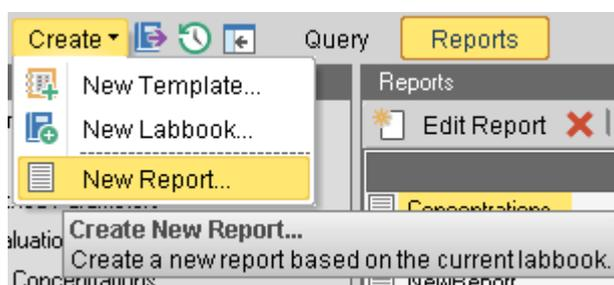

Figure 8-18. Completed LabBook selecting New Report
3. Select **New Report**, see Figure 8-18.